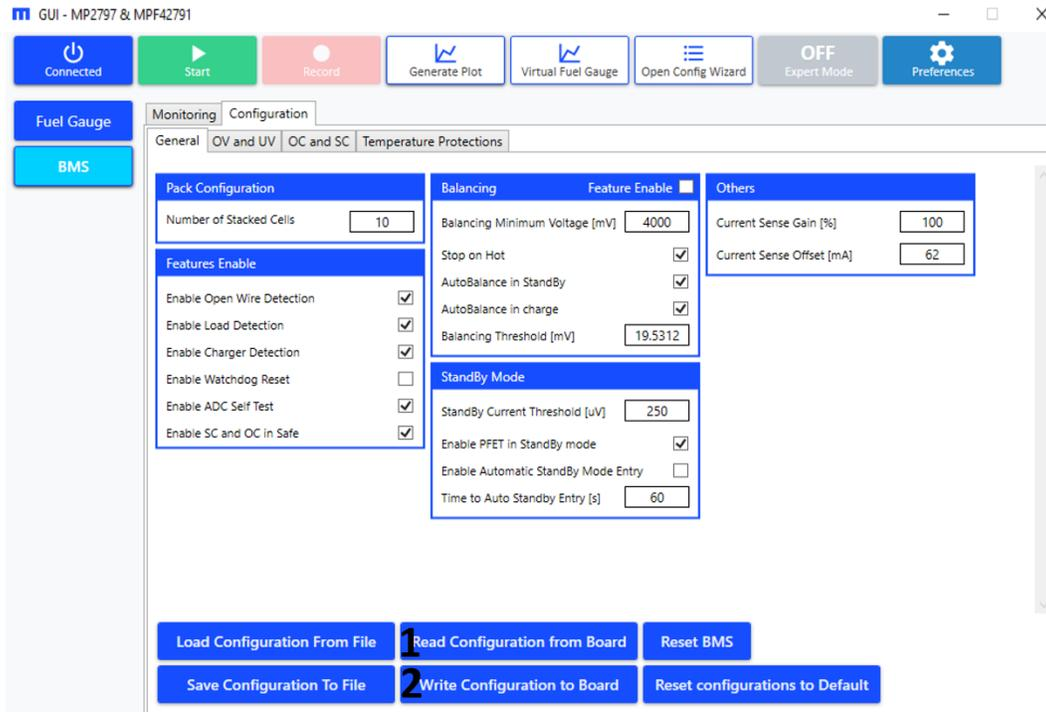

Figure 46: BMS Configuration (Read and Write Buttons)
3. Click “Read Configuration from Board” to read the configurations of the BMS and overwrite the BMS configurations in the GUI (denoted as “1” in Figure 46 on page 35).
4. Click “Write Configuration to Board” to write the configurations stored in the GUI to the memory of the BMS (denoted as “2” in Figure 46 on page 35).